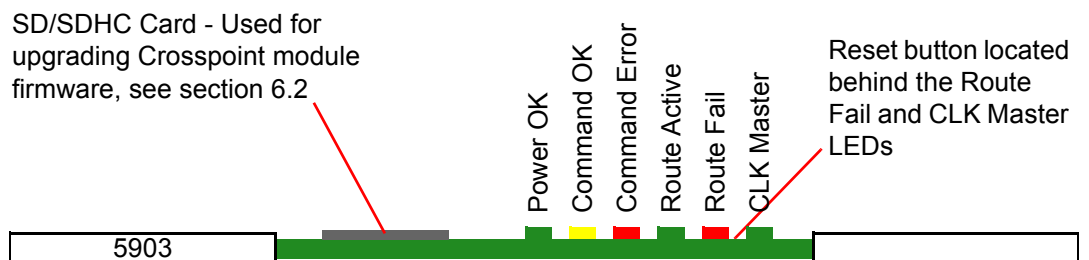

Figure 54 5903 Sirius 800 Audio Crosspoint Module LEDs
Table 20 shows the LED color code for the LEDs at the front of the 5903 Audio Crosspoint module, and Figure 54 shows the front edge of the module.
2. Press the **Reset** button on the failed audio crosspoint module (Figure 54 on page 90) so that the working crosspoint module uses its own audio system clock.